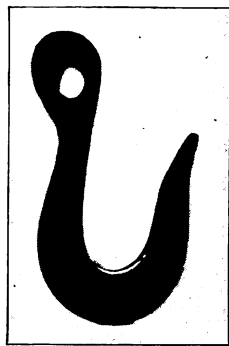

FIG. 26. SLIP HOOK.
7. Bend over the horn of the anvil to the shape shown in Plate 9 and Fig. 26.